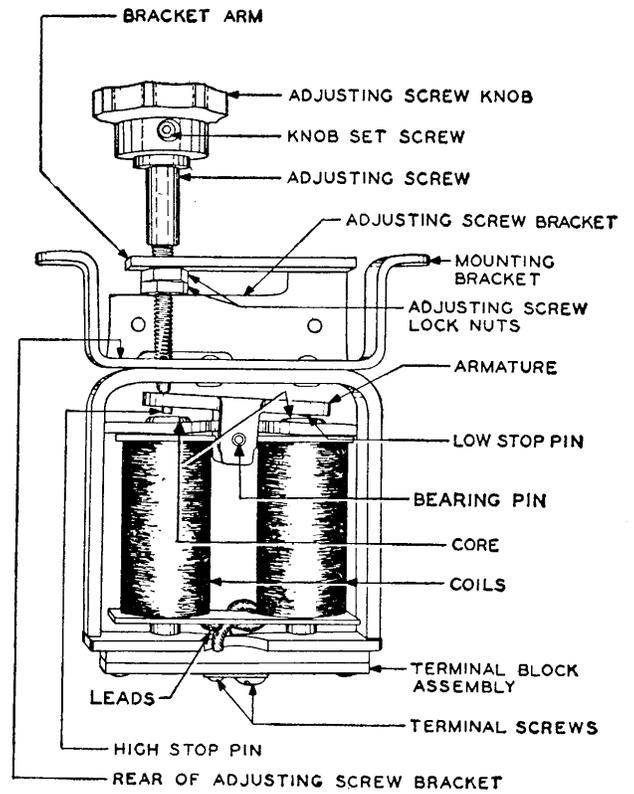

Fig. 2—8-type Buzzer Not Equipped With an Adjusting Screw Arm
- *2.06 **Position of Adjusting Screw Locknuts (Buzzers Not Equipped With an Adjusting Screw Arm):** Fig. 2—With the adjusting screw in its outermost position and with the armature operated manually, the low stop pin shall be in contact with the core and the tip of the adjusting screw shall just touch the armature.